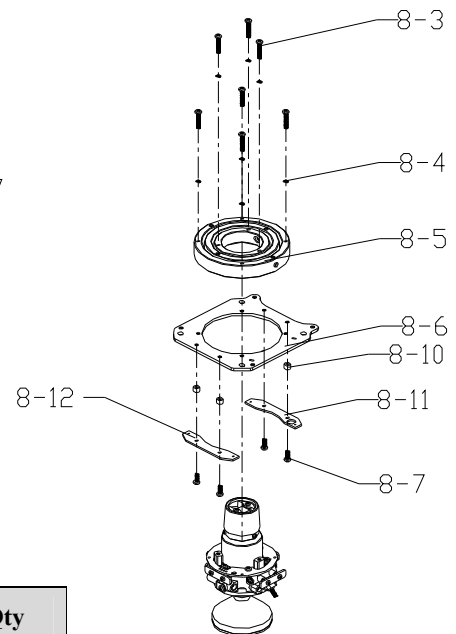

Figure 7
3. Remove gimbal assembly (8-5#) from circuit board #8 (8-6#) by using a Phillips screwdriver to loosen the 7 crosshead plate screws M2.5×16(8-3#), as shown in figure 7.